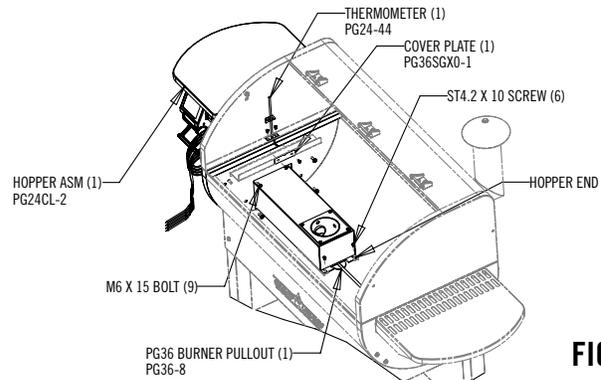

FIG. 10
6. Attach hopper assembly using Qty (4) M6 x 15 bolts as shown in Fig. 10.
7. Install thermometer as shown then secure using Qty (2) ST 4.2 x 10 screws as shown in Fig. 10
8. Push extra wire from thermometer back through the hole to the hopper. Install probe cover to the wall where the thermometer came thru the wall using QTY (2) ST 4.2 x 10 screws. Make sure that the notch in the cover is up and wire goes through notch so it is not pinched.
9. Secure hopper end to the grill body assembly using Qty (2) ST 4.2 x 10 screws as shown in Fig. 10